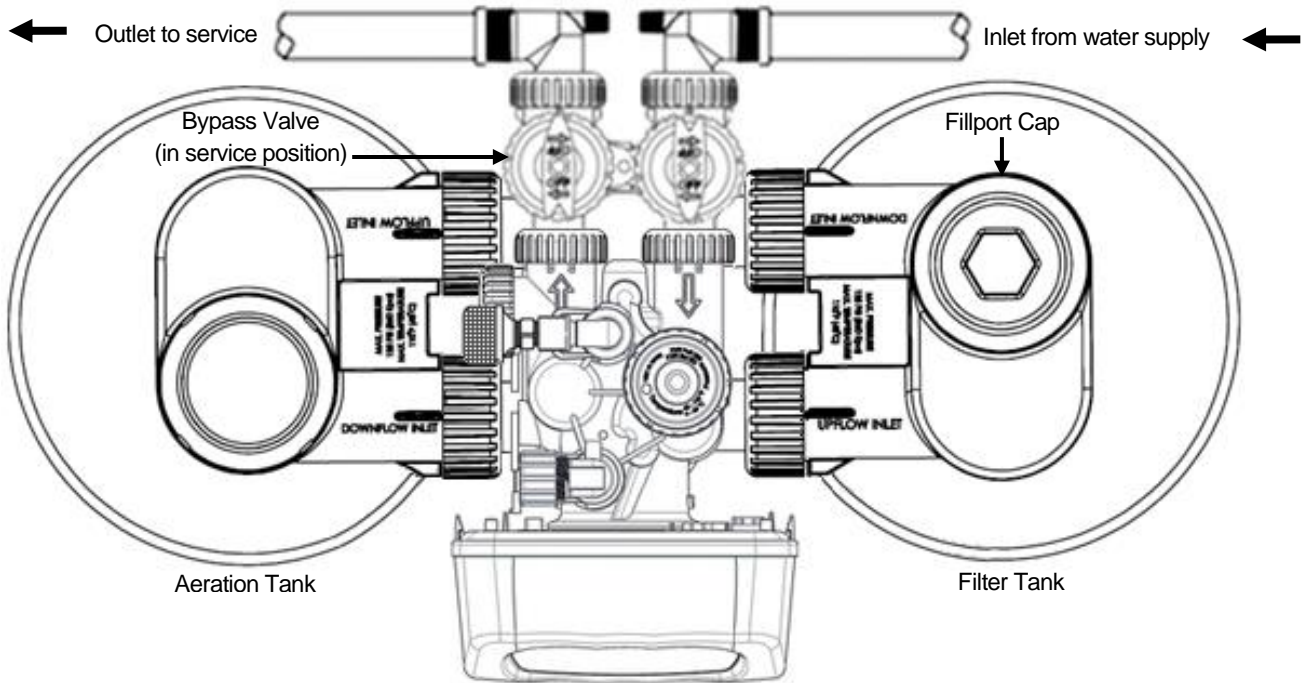

FIGURE 6a: Tank Positioning and Fillport Location
- STEP 2:** Place the tanks in the upright position. Use the provided wrench to **remove the fillport cap from the filter tank** (See Figure 6a, page 7) by turning it counter-clockwise.